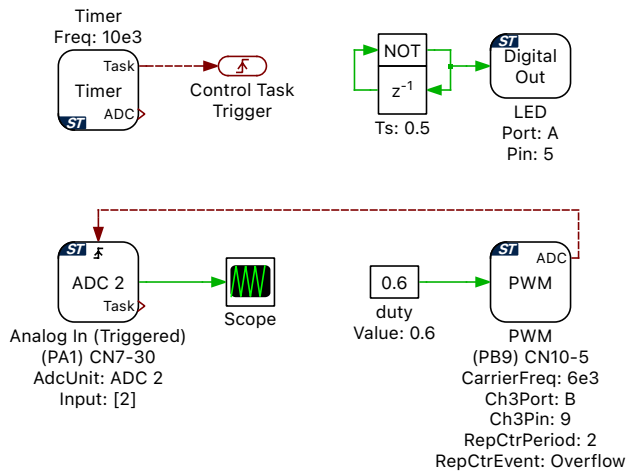

Figure 3: ADC start-of-conversion triggered by PWM
- 8 *Change the Analog In Trigger source:* Next, switch the ADC trigger to be generated by the PWM block instead of the Timer, as shown in Fig. 3. Observe the offline simulation results. Then re-build the “Controller” subsystem onto the STM32 MCU, **Connect** to the External Mode, modify the duty cycle on the fly and observe the real-time simulation results.